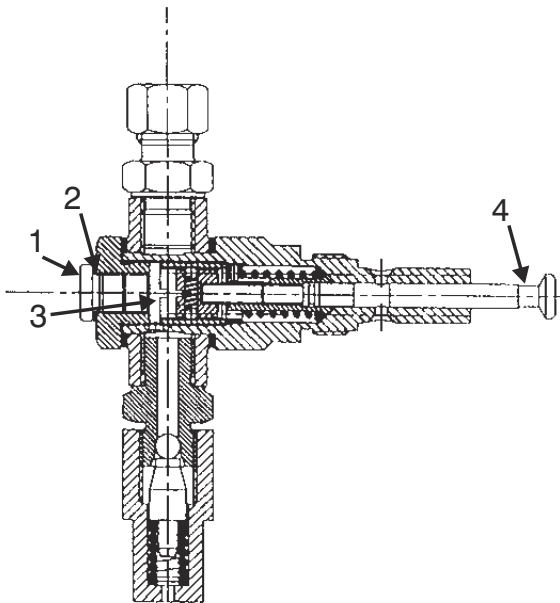

Figure 6-1. AutoLube CML Adjustment
(Refer to Figure 6-1.)
1. Pull primary grease piston (4, Figure 6-1) out about 1 inch.
4. Tighten pump element lock nut (1, Figure 6-1).
When removing pump, DO NOT leave piston (Item 4, Figure 6-1) in cam. The piston must be removed with the pump element. Severe equipment damage will result if piston is not removed.
1. Reverse the steps above to remove the pump element. Ensure that piston (4, Figure 6-1.) is removed with pump element.